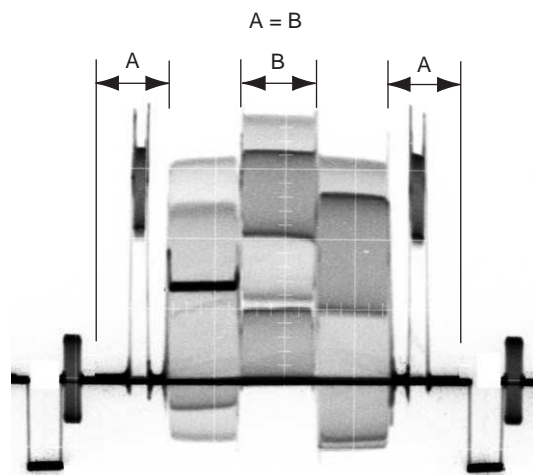

Fig. 6-1-24
- 3) Upon successful completion of "1. Data Setting during Camera Adj.", "2. Picture Frame Setting" is executed. The following message is displayed, and then referring to Fig. 6-1-24 to Fig. 6-1-26 (See page 6-15), set the subject and click the  button.
- 3) Upon successful completion of “1. Data Setting during Camera Adj.”, “2. Picture Frame Setting” is executed. The following message is displayed, and then referring to Fig. 6-1-24 to Fig. 6-1-26 (See page 6-15), set the subject and click the **[OK]** button.